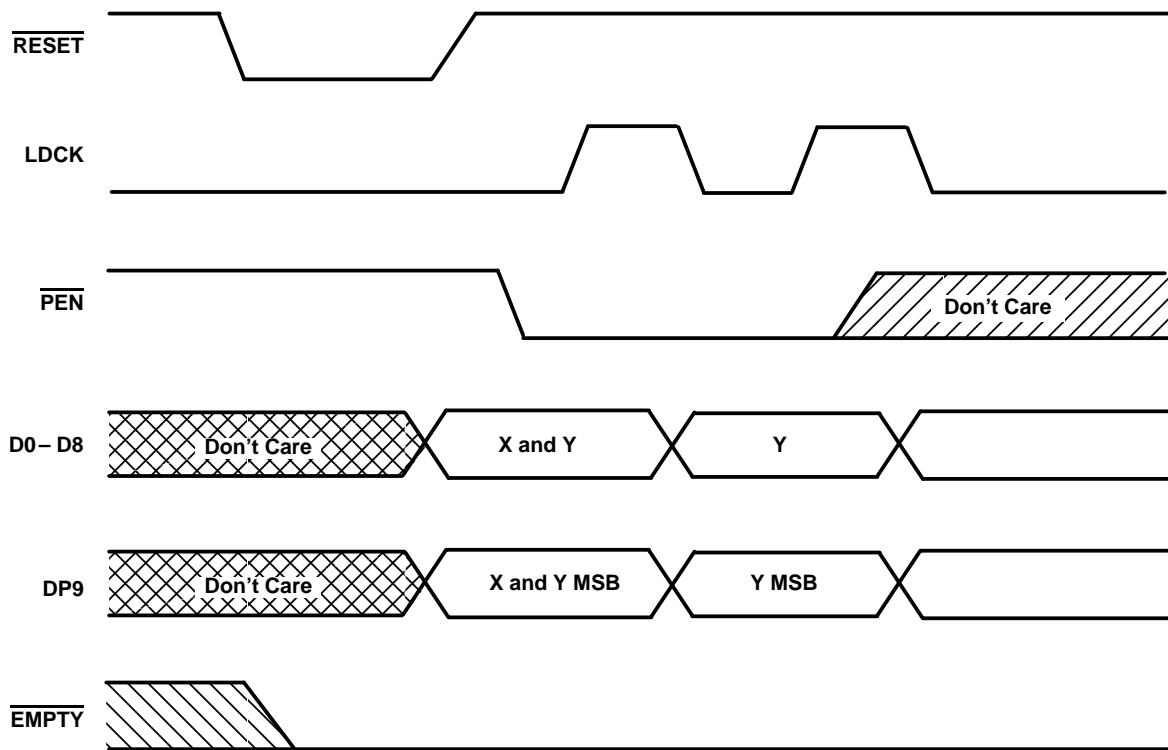

Figure 1. Programming X and Y Separately
To program the offset values, program enable (\overline{PEN}) can be brought low after reset only when LDCK is low. On the following low-to-high transition of LDCK, the binary value on D0–D8 and DP9 is stored as the almost-empty offset value (X) and the almost-full offset value (Y). Holding \overline{PEN} low for another low-to-high transition of LDCK reprograms Y to the binary value on D0–D8 and DP9 at the time of the second LDCK low-to-high transition. Writes to the FIFO memory are disabled while the offsets are programmed. A maximum value of 1023 can be programmed for either X or Y (see Figure 1). To use the default values of X = Y = 256, \overline{PEN} must be held high.